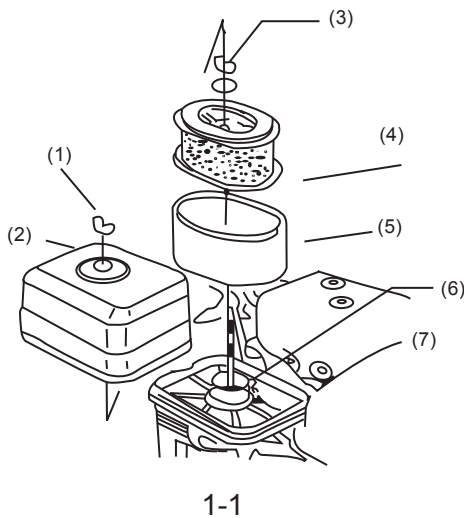

Figure 1-1
7. Check air cleaner:(Refer to Figure 1-1)